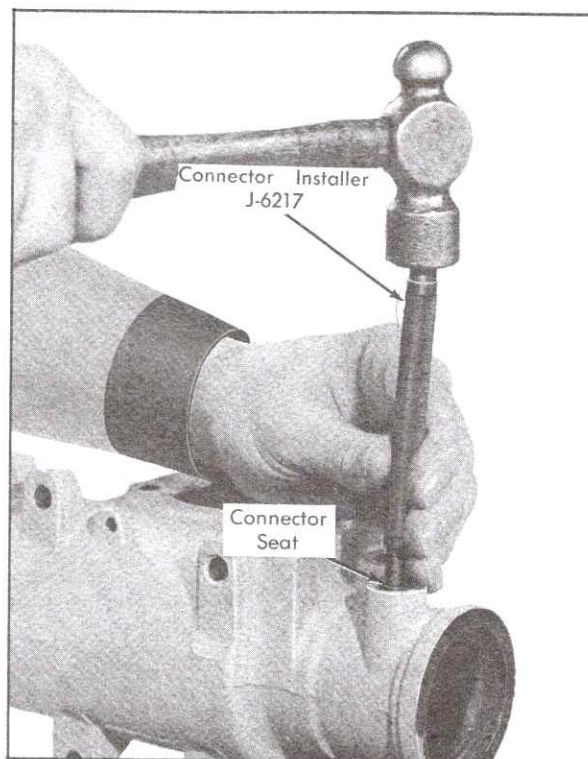

Fig. 9-40 Installing Hose Connector Seat
10. Install new connector seats, using petrolatum to hold connector seat on check valve in pressure port. Drive connector seats in place using Valve Connector Seat Installer, J-6217, Fig. 9-40.